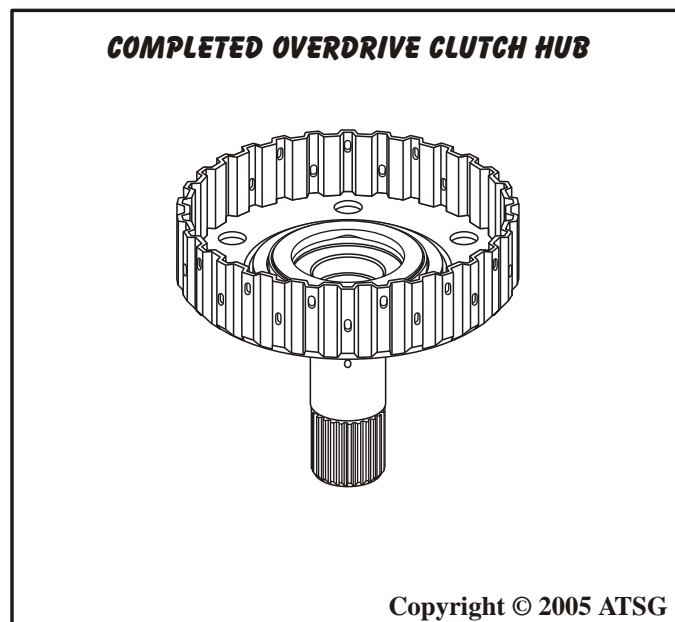

Figure 94
4. Set the completed overdrive clutch hub aside for the final assembly process (See Figure 94).